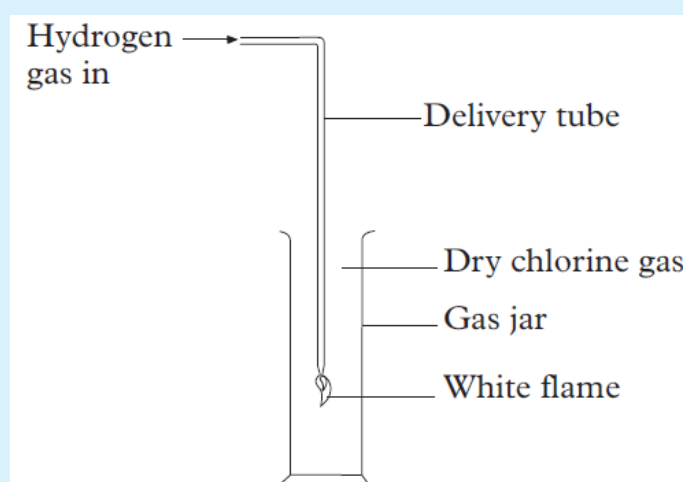

Figure 4.1.3.(c): Experimental set up for the reaction between chlorine and hydrogen
2. (a) Introduce burning hydrogen from a generator into a gas jar of dry chlorine gas as shown in figure 4.1.3.(c). Record your observations.